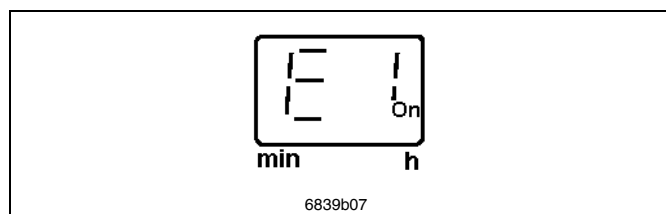

Fig. 23 Display of the malfunction E1
- If there is no feedback from the pressure sensor or switch within the monitoring time from completion of the pause time or from triggering an additional lubrication, the pump switches off immediately. One of the fault signals *E1* to *E4* (Error, fig. 23 to 26) will be displayed as a flashing light in the display of the membrane key pad.